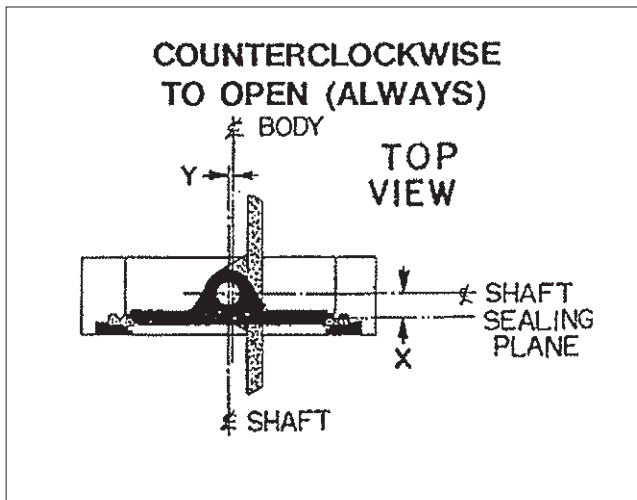

Figure 4.
3. Before installing the closed valve in the line, be sure that the actuator is attached so that a counterclockwise rotation, viewed from above, opens the valve (see **Fig. 4**). Again, fully close the valve before installing it in the line.